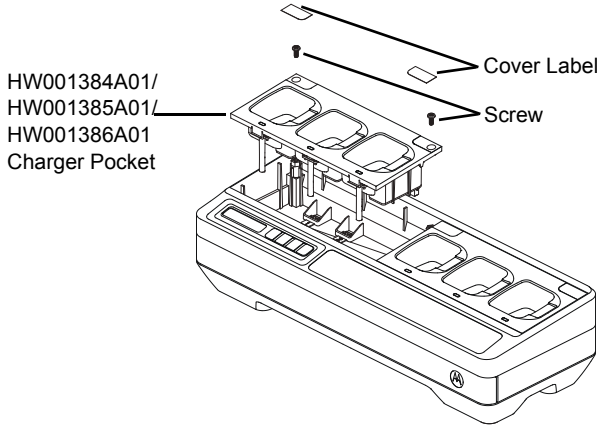

Figure 23: Installing and Removing Charging Pocket
4. Remove the Pocket Harness by pulling straight up on the connector (Refer to Figure 23).